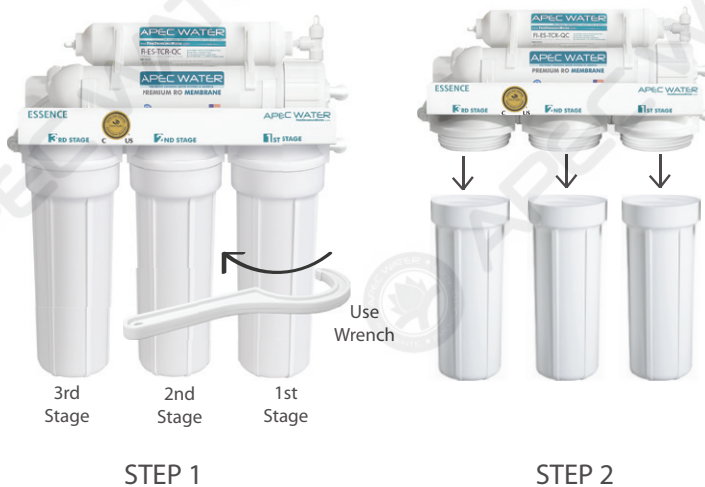

Fig. 14A
- 2) See **Fig. 14C Page 22**. Locate the Membrane housing on the system (labeled "Membrane"). Remove the WHITE tubing from the housing's cap at **point D**. To remove tubing, Push In and Hold Down on the collet ring square against the fitting. With the collet held in this position the tube can be removed. Open up the cap (turn counter-clockwise) See **Fig. 14A**. Using a plier, remove the used membrane for disposal.